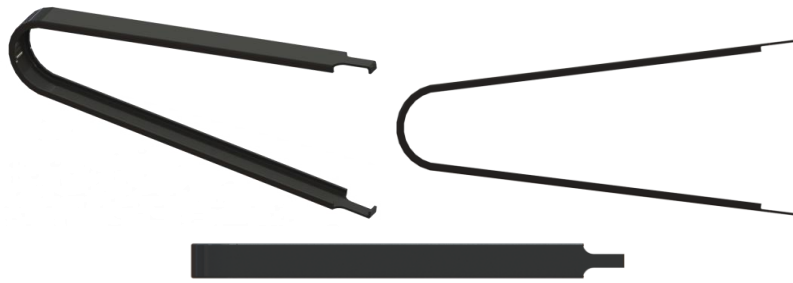
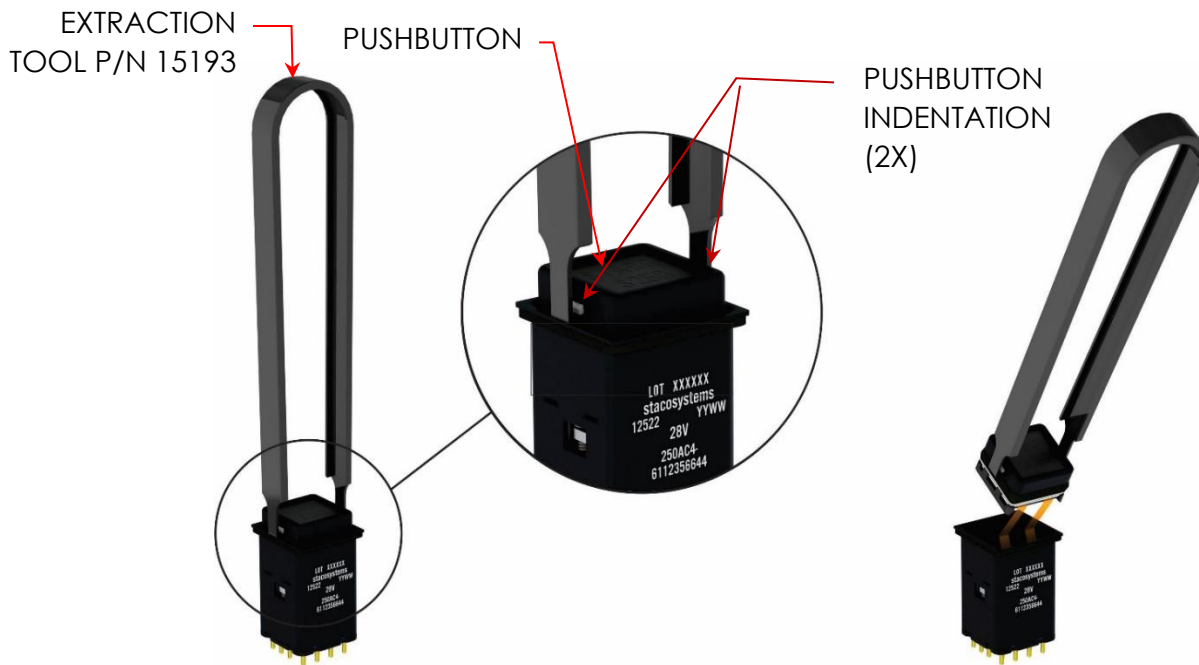

Figure 4
Figure 5
Using the pushbutton extraction tool, see Figure 4, position the tool's gripping tabs around the two indentations located on the pushbutton's retainer as shown in Figure 5. Clamp/squeeze the tool gently but firmly and pull the pushbutton away from the switch/indicator housing. The removal force should be in the range of two (2) to five (5) pounds.